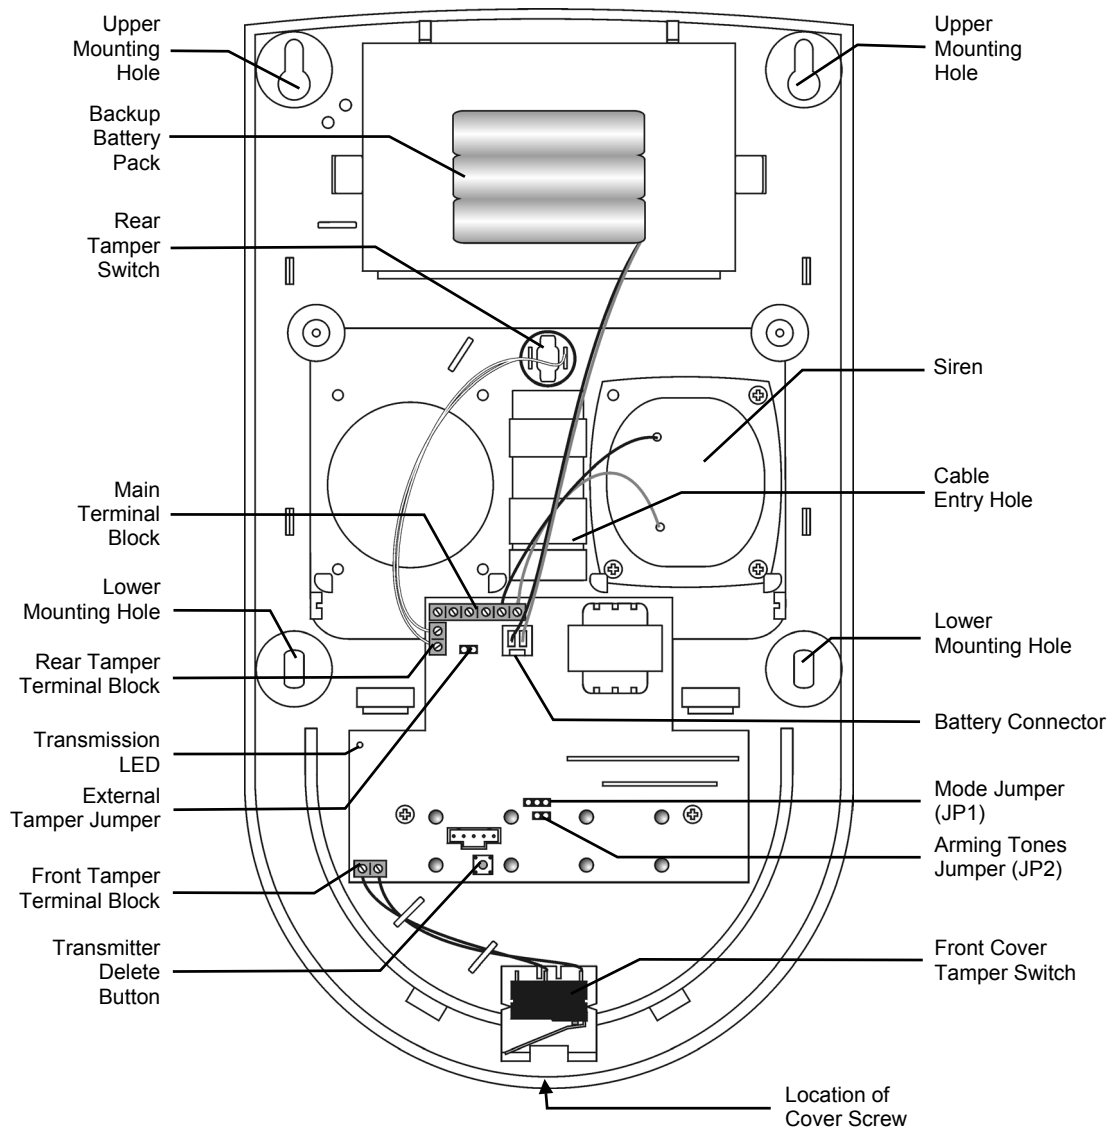
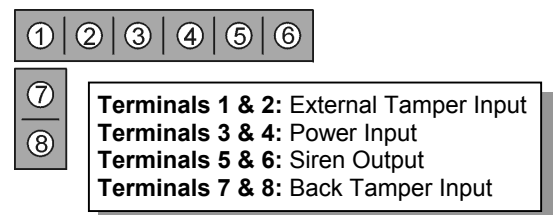

Figure 1: EL-2626AC (cover off)
Figure 2: Wiring Connections
4. Connect a 12VDC or 9VAC, 500mA transformer to terminals 3 and 4 on the siren's terminal block (polarity is not important) – see Figure 2.
18. Connect the transformer to the terminal block and the backup battery to the battery connector. If using Electronics Line 3000’s tamper protected external power supply, connect its tamper output to the siren’s external tamper input, remove the External Tamper jumper and place it over one pin for storage – see *Figure 2 for further information on wiring connections and Figure 1 for the location of the External Tamper jumper.*